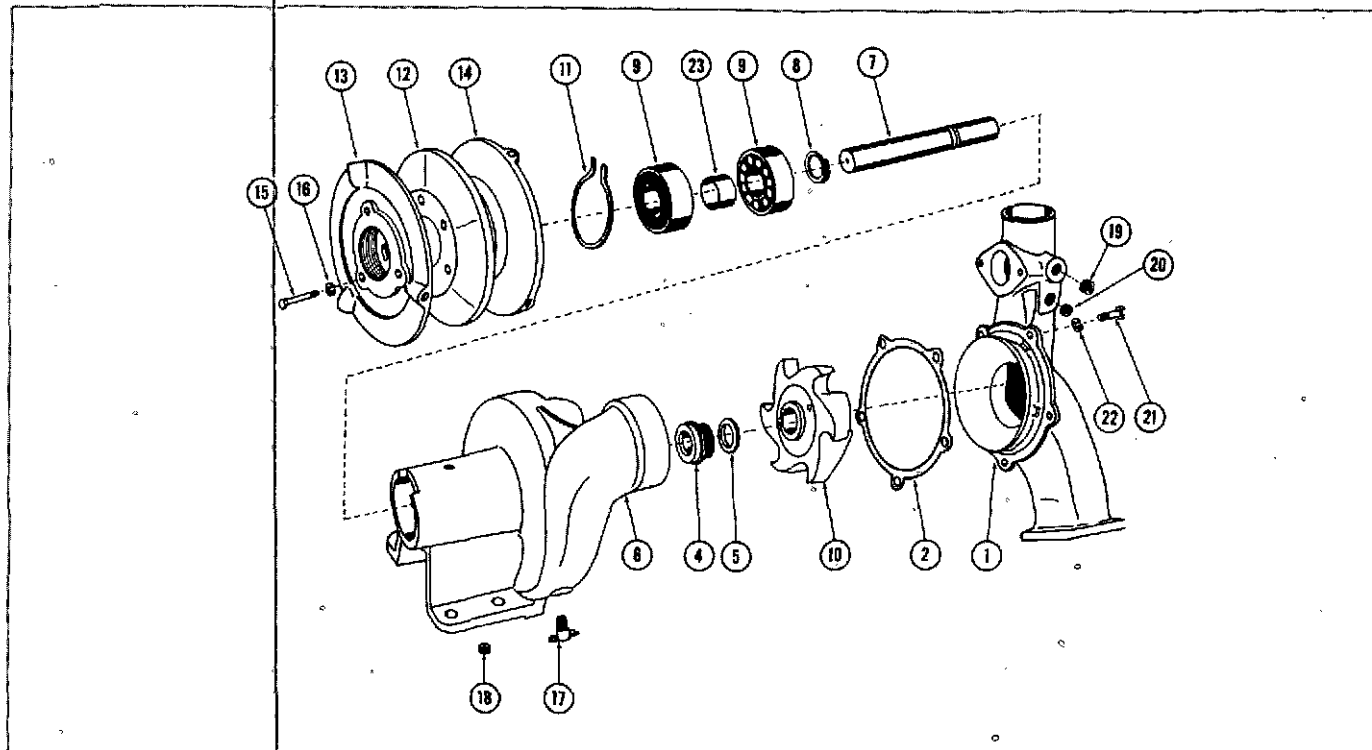

Fig. 8-1-1, V40810. Water pump — exploded view
1. Remove capscrews (21) Fig. 8-1-1, lockwashers (22), gasket (2) and cover (1) from water pump body.
2. Pull impeller (10) from shaft (7) with ST-647 puller.
3. Pull pulley sheave hub (12) from pump drive shaft (7).
4. Remove snap ring (11) from pulley end of body (6) and press out shaft spacer (23) and bearings (9).
5. Remove carbon face seal (4) from pump body (6); discard.
6. Press shaft (7) from bearings (9) and spacer (23); only if damaged remove retaining ring (8) from groove in shaft.
1. Place bearing retaining ring (8, Fig. 8-1-1) over long end of water pump drive shaft (7); press into first ring groove with a piece of tapered steel tubing.
2. Pack bearings (9) full of grease meeting specifications at